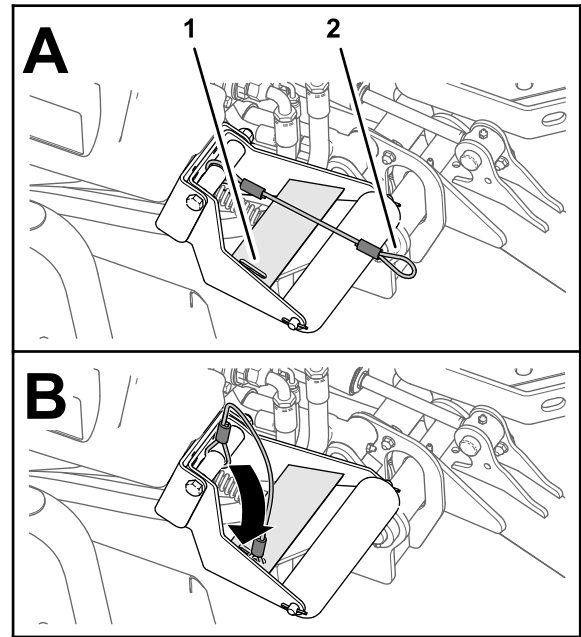

Figure 41
4. With the cutting units lowered, slip the loop of the lanyard into the slot in the reinforcement plate of the roller support (Figure 41).